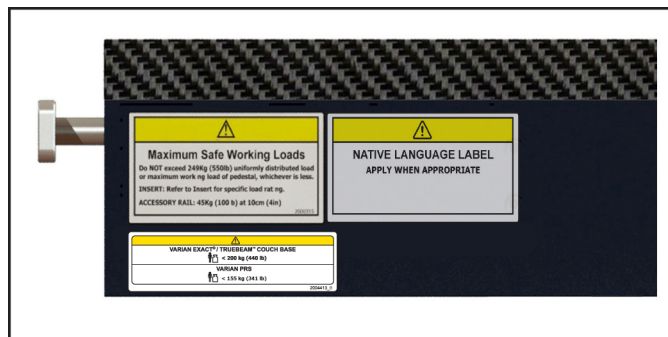

Fig. 42
11. Place native language, 2" x 4" CAUTION label, to the right of 2" x 4" current CAUTION label where appropriate. Refer to Fig. 42.